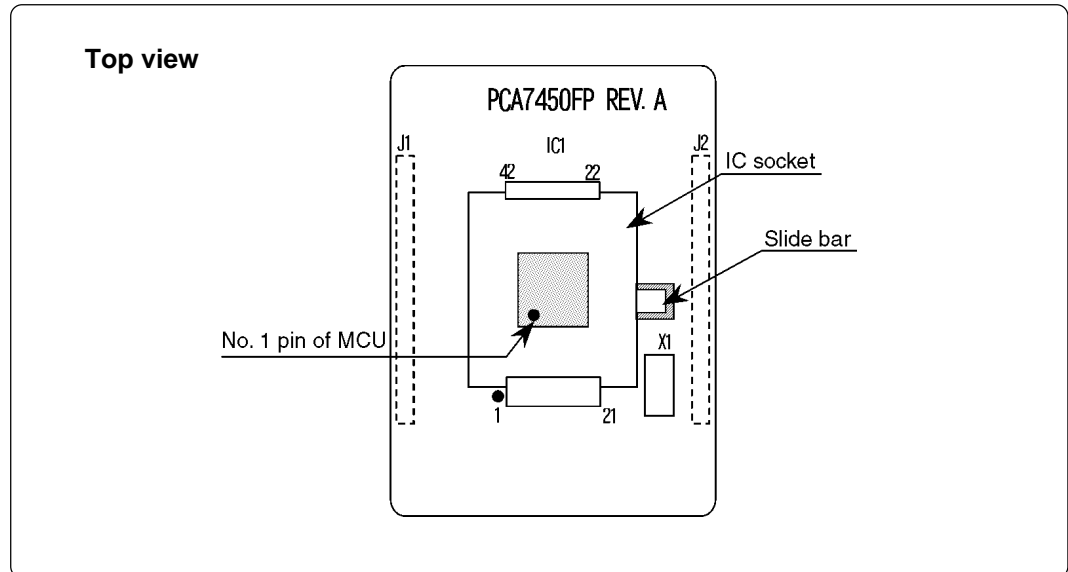

Figure 4.3 Mounting an MCU (PCA7450FP)
- (1) As shown in Figure 4.3, set the slide bar in the center of the IC socket to the shaded area on the board.
- (2) As shown in Figure 4.3, mount the MCU into the IC socket with the No. 1 pin of the MCU matched to the No. 1 pin of the IC socket on the PCA7450FP.